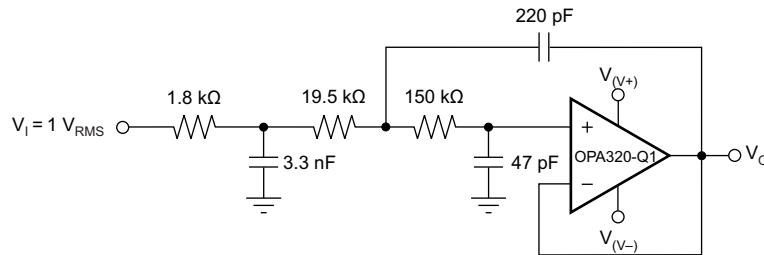

Figure 44. OPA2320-Q1 Configured as a Three-Pole, 20-kHz, Sallen-Key Filter
3. using a noninverting filter topology, such as the Sallen-Key (see Figure 44).